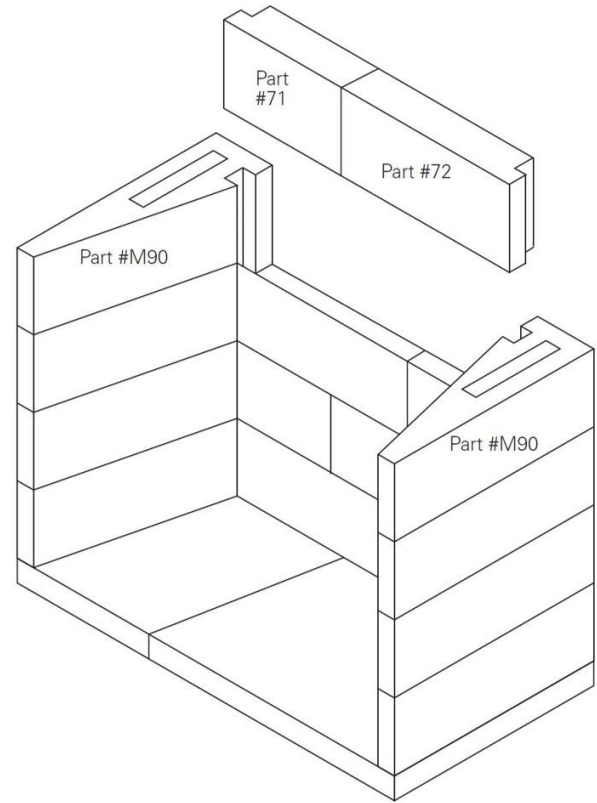

FIGURE 18
3. Continue assembly of the consecutive courses of the firebox side wall and back wall, making sure to stagger the backwall components so that the vertical joints do not align. Apply Earthcore adhesive to the top of each layer of wall components, then set the next course above into place. Be sure to Earthcore adhesive all vertical joints of the side walls, as well as the sidewall to back wall connection when setting each component to its mate. **(Figure 18)**